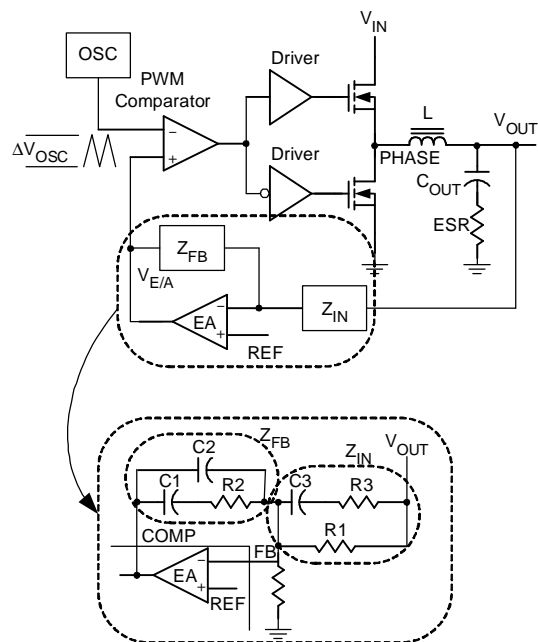
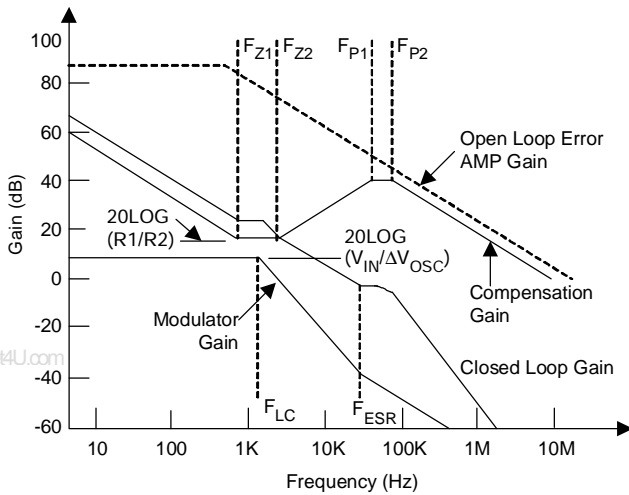

Figure 3
Figure 4
Figure 3 highlights the voltage-mode control loop for a synchronous buck converter. Figure 4 shows the corresponding Bode plot. The output voltage (V_{OUT}) is regulated to the reference voltage. The error amplifier EA output (COMP) is compared with the oscillator (OSC) sawtooth wave to provide a pulse-width modulated (PWM) wave with an amplitude of V_{IN} at the PHASE node. The PWM wave is smoothed by the output filter (L and C_{OUT}).
The compensation network consists of the error amplifier EA and the impedance networks Z_{IN} and Z_{FB}. The goal of the compensation network is to provide a closed loop transfer function with the highest DC gain, the highest 0dB crossing frequency (FC) and adequate phase margin. Typically, FC in range 1/5 to 1/10 of switching frequency is adequate. The higher FC is, the faster dynamic response is. A phase margin in the range of 45° to 60° is desirable. The equations below relate the compensation network poles, zeros and gain to the components (R1, R2, R3, C1, C2, and C3) in Figure 4.